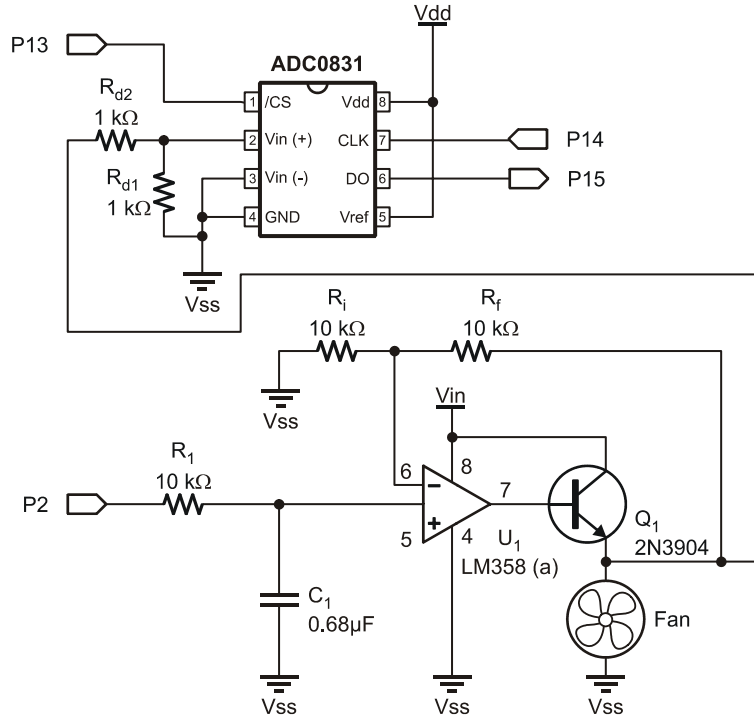

Figure 5-21
- (1) Brushless DC Fan
- √ Modify your circuit to match Figure 5-21.